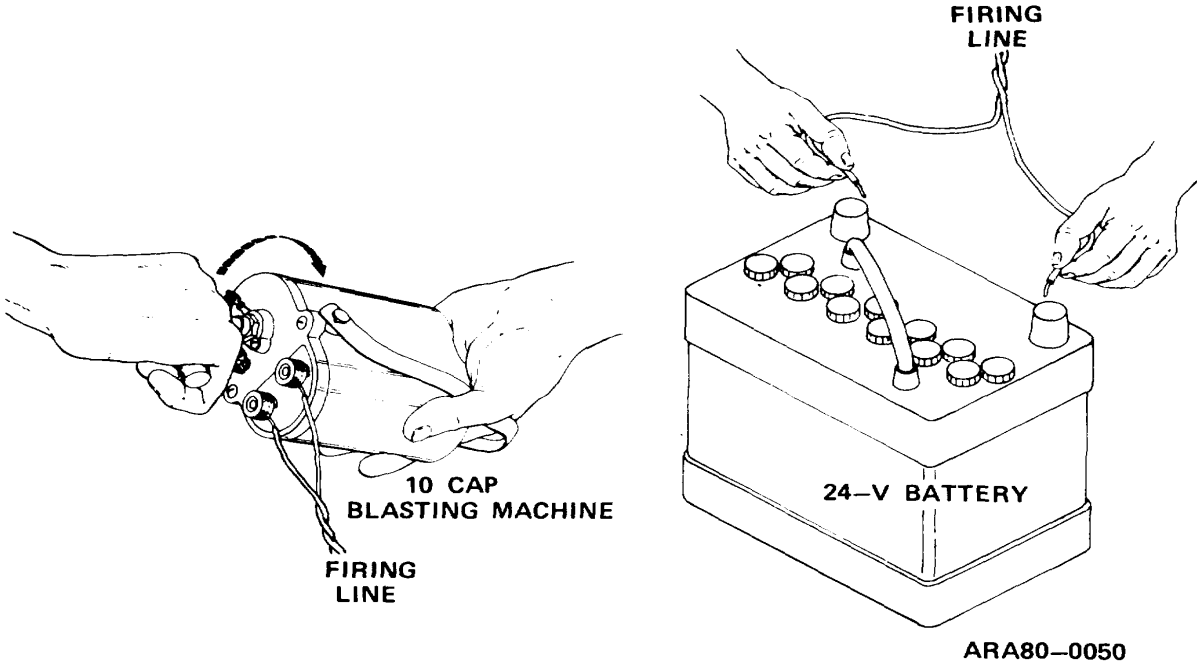

Figure 2-11. Firing the SPAL. (ARA80-0050).
a. *Firing Sources.* Use a 10-cap blasting machine or a 24-volt battery (fig. 2-11). Table 1-1 lists several types of blasting machines and a battery that may be used. Instructions for operating blasting machines are given in FM 5-25 and TM 91375-213-12.